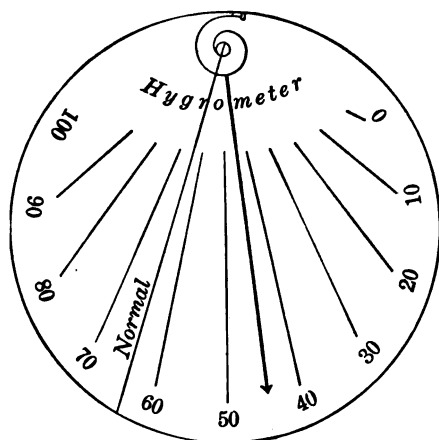

FIGURE 14. — THE HYGROMETER.
25. The Hygrometer. — An instrument used to measure the amount of water vapor in the air is called a *hygrometer*. Figure 14 shows a common form of the hygrometer. It consists of a small spring, a pointer, and a scale. The scale